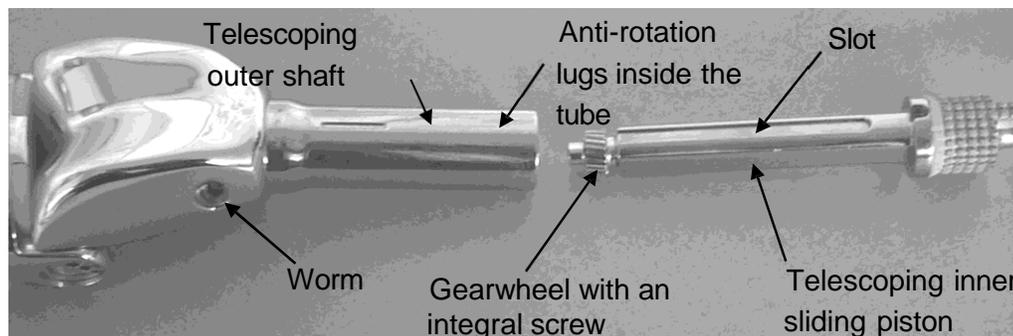

Fig. 02 Minimally Invasive Grower components
1. The gearbox mechanism (worm and gearwheel) is designed to disengage by pulling the telescopic components apart once the 2mm Locking Screw has been disengaged. This disassembly may be required during implantation or revision. Figure 02 below Outlines a detailed breakdown of components in this device.